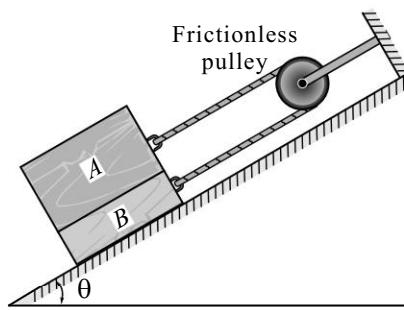

Fig. 8.E19
20. Find the least force P to start motion of any part of the system of three blocks resting upon one another, as shown in Fig. 8.E20. The weights of the blocks are $W_A = 300 \text{ N}$, $W_B = 100 \text{ N}$ and $W_C = 200 \text{ N}$. The coefficient of friction between A and B is 0.3, between B and C is 0.2 and between C and the ground is 0.1.